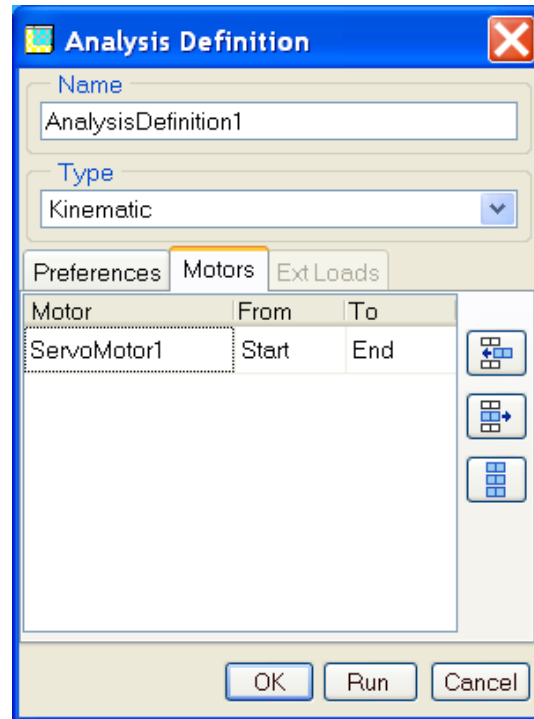

Figure 5b
- d) On the **Motors** tab, be sure ServoMotor1 is listed. If it is not, click  as shown in figure 5b.